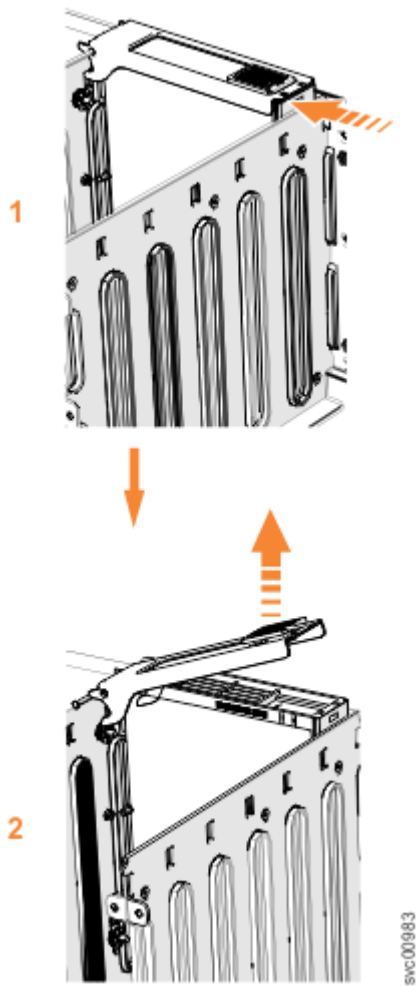

Figure 139. Remove the drive assembly
5. Slide the release latch forward (1), as shown in Figure 139 on page 202.
6. Lift the handle (2) to unlock the drive carrier from the partition, as shown in Figure 139 on page 202. Ensure the toe on the bottom of the latch is fully disengaged.